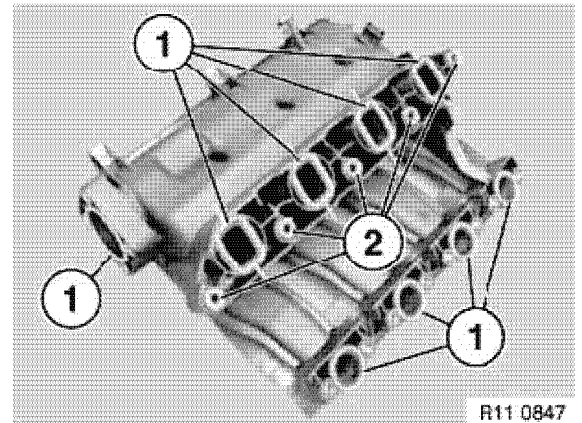

Figure 5-131
- Install new sealing rings (1, **Figure 5-131**).
- Check condition of rubber mounts (2, **Figure 5-131**) and replace if damaged.